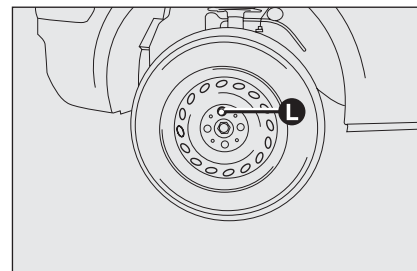

fig. 6
- remove the wheel cap (where provided) after loosening the three fastening bolts then, loosen the fourth bolt **L**-fig. 6 and remove the wheel;